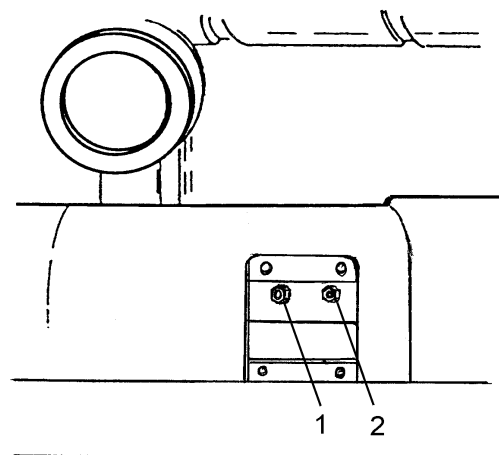

Fig. 14.12. Track Adjuster
2. Be sure the relief valve (1, Fig. 14.12) is unscrewed one full turn to avoid entering a vacuum in the cylinder.
2. Tighten the relief valve (1, Fig. 14.12) to 68 [Nm].